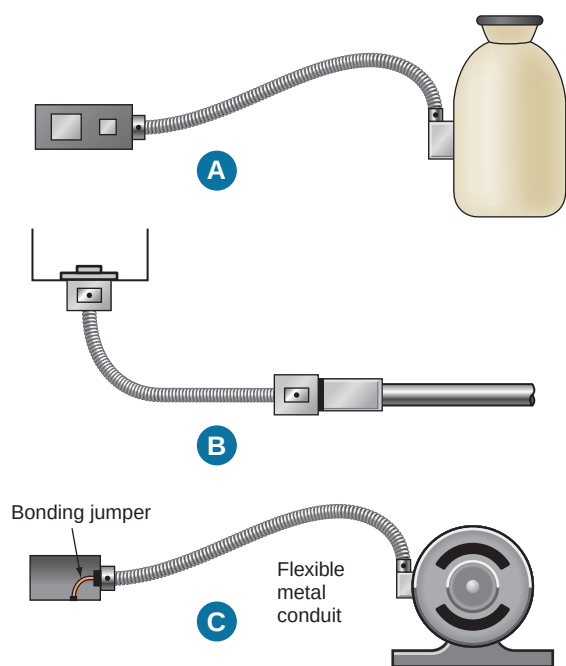

FIGURE 6-13 Installations using flexible metal conduit. (Delmar/Cengage Learning)
- Liquidtight flexible metal conduit (LFMC), Figures 6-13 and 6-15. See *NEC Article 350*.
Some of the more common installations using FMC are shown in Figure 6-13. Note that the flexibility required to make the installation is provided by the FMC.
- the overcurrent device protecting the contained conductors is rated at 20 amperes or less, Figure 6-13(A) and (B).